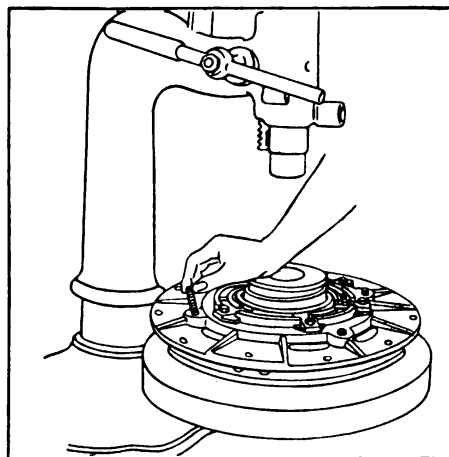

Figure 416
Assemble retractor springs (128) and install pins (129). Refer to instructions under Pressure Plate Removal and Replacement. Figure 416.